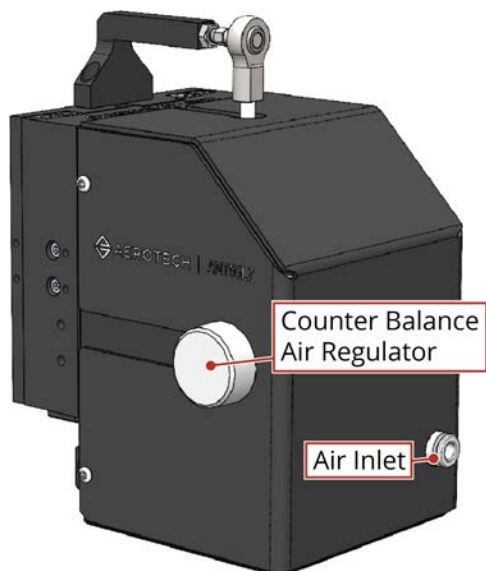

Figure 1-3: Air Inlet Location
- a. The tabletop should still be hanging from the loose shipping brackets. If the tabletop starts to slowly rise, gradually lower the air supply pressure using the stage regulator knob (refer to Figure 1-3) until the carriage hangs from the shipping brackets. Counterclockwise rotation of the knob decreases the pressure to the counterbalance cylinder.